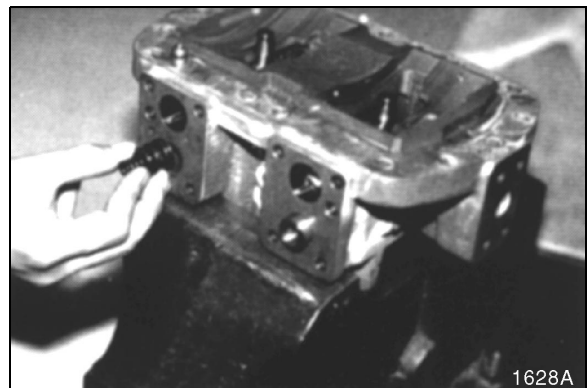
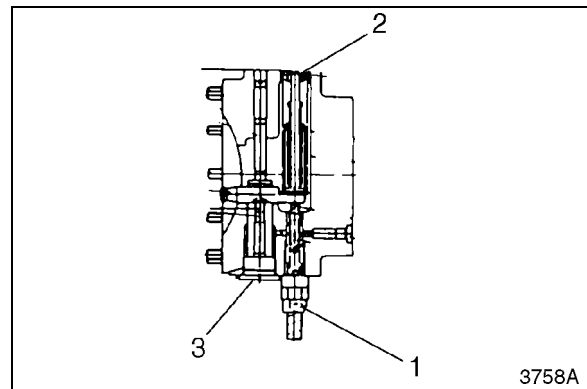

Figure 35
Figure 36
NOTE: *DO NOT turn nut (1, Figure 35).*
8. Turn control section upside down and remove adjusting screw (2), plug (3) and spring. See Figure 35 and Figure 36.